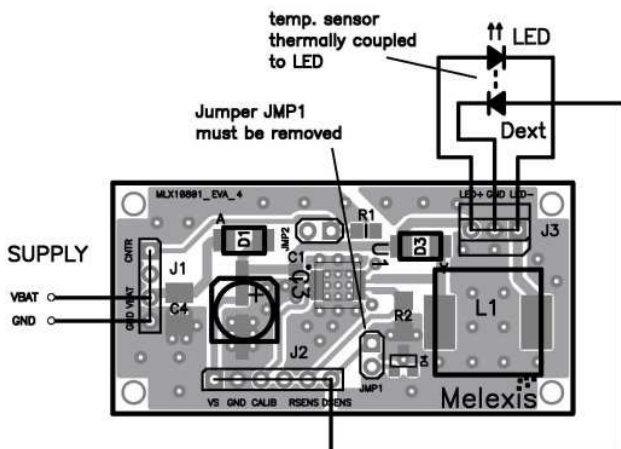

Figure 4: External temperature sensor connections
Any programming of the circuit is accomplished via the calibration pin CALIB. It is accessible at connector J2, Pin 3. A jumper that is set by default between CALIB and GND (to protect the CALIB pin from voltages that could result in faulty programming) has to be removed before programming. Supply (VS) and GND have to be applied at this connector too as shown below in figure 4. Only these three wires are necessary for programming. For details about the calibration interface and procedure please refer to the MLX10801 IC specification.